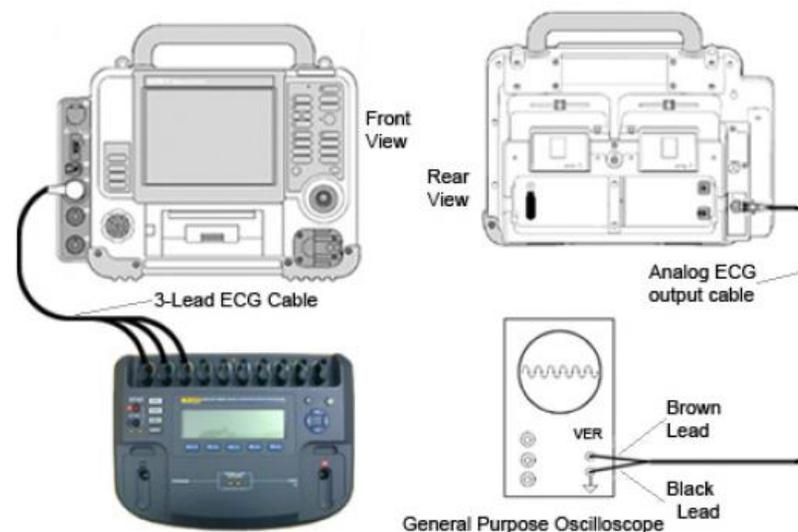

Figure 1.39—Analog ECG output test setup
1. Connect the device to the Impulse 7000DP and oscilloscope as shown in Figure 1.39.